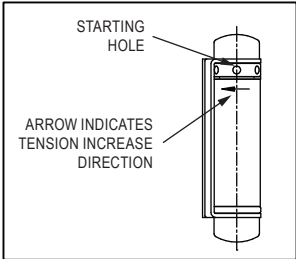

FIGURE 3a
To adjust the spring tension, follow the instructions below and use Figures 3a, 3b, 3c, and 3d as reference.
a. The starting hole is the hole is the first exposed immediately above or below the stamped arrow. See Figure 3a.
3. Rotate the tension tool in the direction of the arrow to increase the tension. You can only increase or decrease the tension by one (1) or two holes (2) at a time. DO NOT INCREASE TENSION MORE THAN FIVE (5) HOLES.